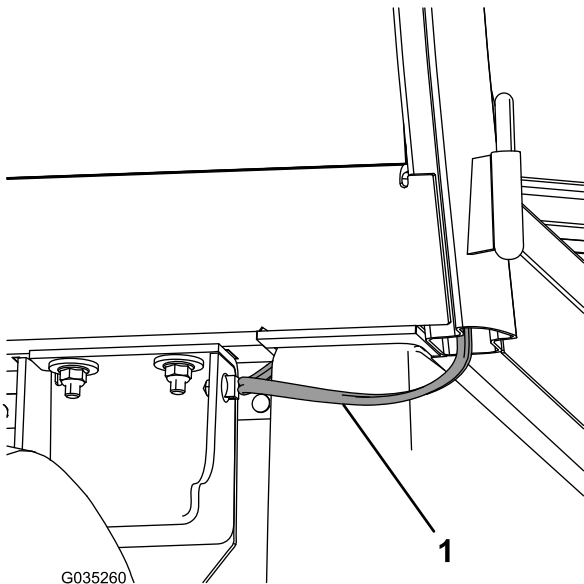

Figure 2
4. Route the wire harness behind the cab and under the seat, and secure the clip on the wire harness to the side panel (Figure 2).